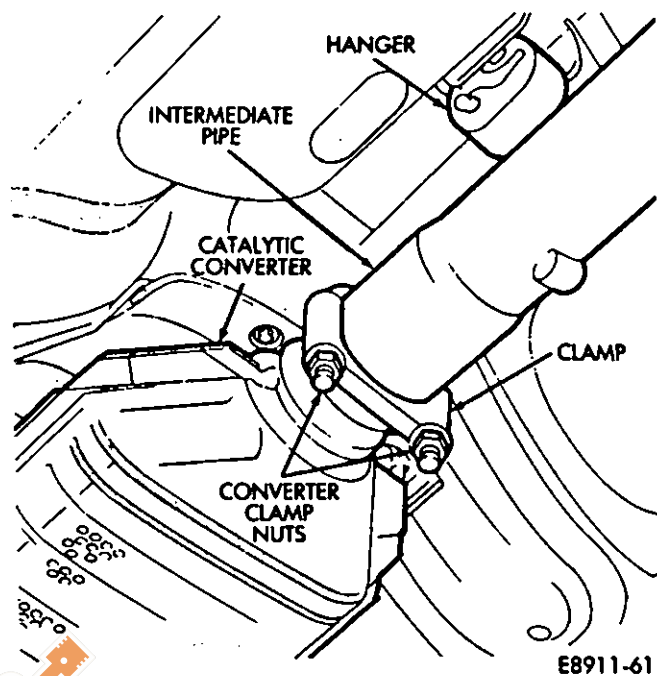

Fig. 13—Intermediate Pipe and Catalytic Converter
- (1) Remove the clamp securing the intermediate pipe to the catalytic converter (Fig. 13).
(1) Position the intermediate pipe on the hangers and between the muffler and the catalytic converter.
(2) Connect the intermediate pipe to the converter and secure with the clamp (Fig. 13). Tighten the clamp nuts to 61 N·m (40 ft-lbs) torque.